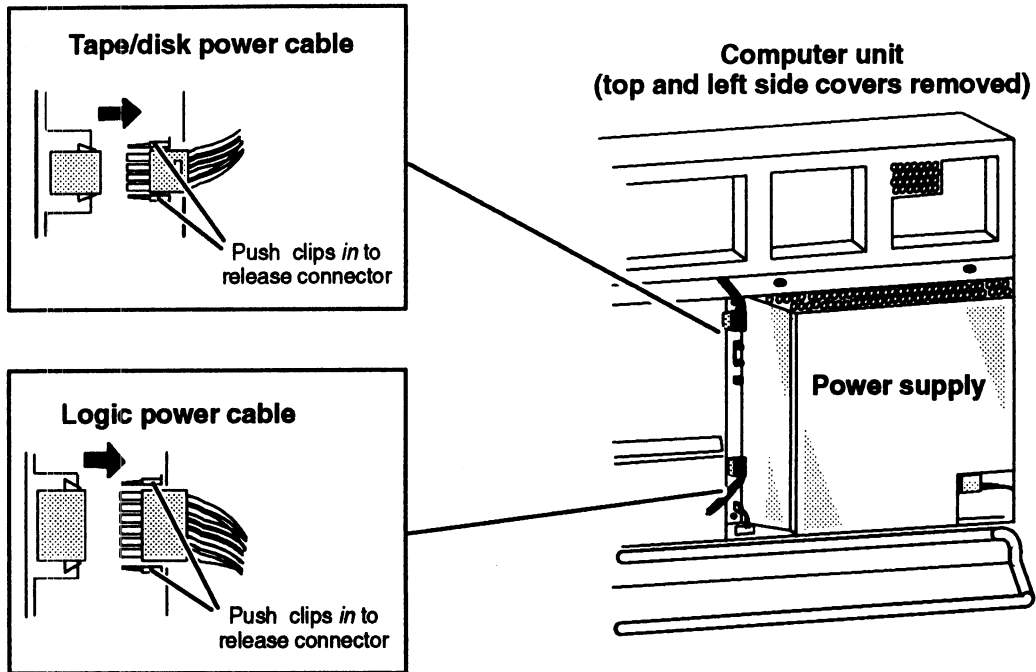

Figure 11-2 Unplugging the Tape/Disk Power and Logic Power Cables
2. Unplug the tape/disk power and logic power cables from the power supply as shown in Figure 11-2.